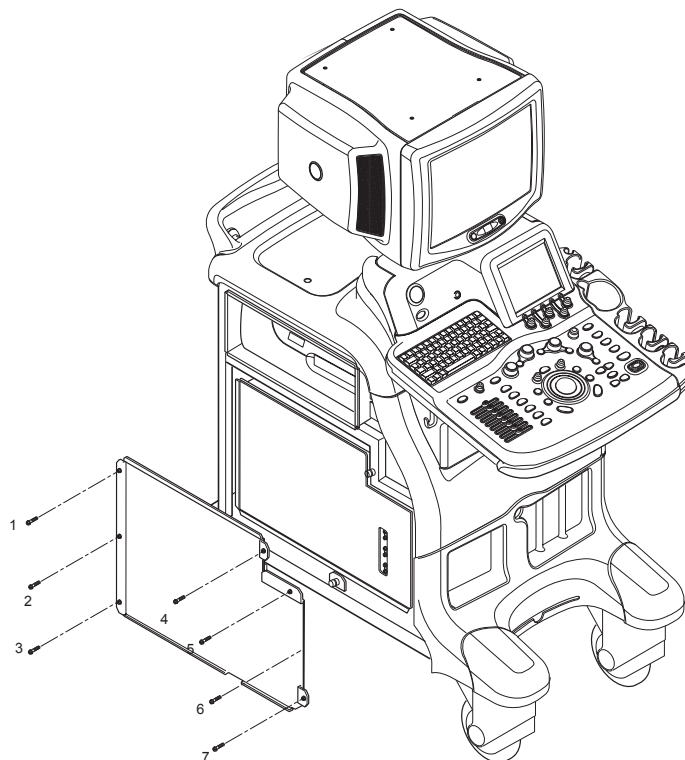

Figure 8-94 Removing the EMI Cover L
- 3.) Remove the EMI Cover L. Refer to Figure 8-94 on page 8-48 .